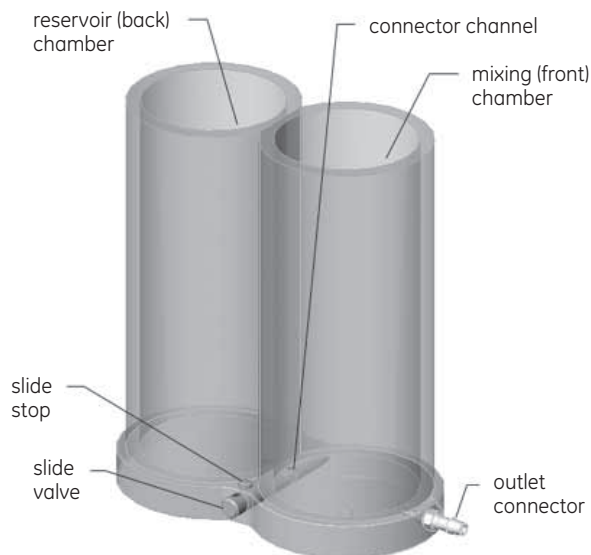

Fig 6-1. DALTsix gradient maker.
- 3 Close the slide valve (out on side of white slide stop button, Fig 6-1). If the outlet tubing is not controlled by a pump, clamp it off near the gradient former. Add the required volume of the final solution to the reservoir (back) chamber.